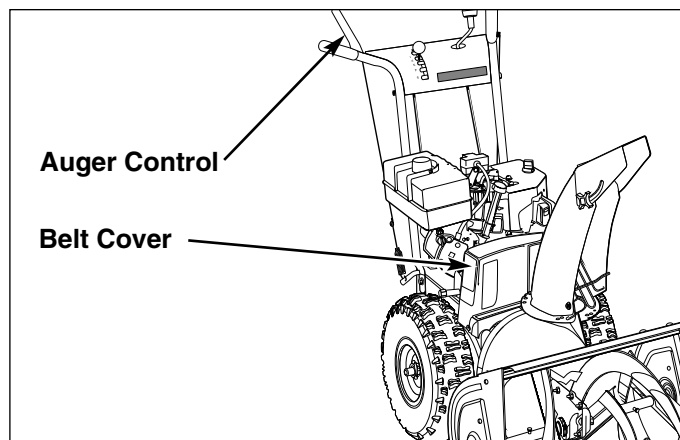

Figure 23. Auger Control and Belt Cover Location
5. Loosen the belt cover screws and remove the belt cover (Figure 23)
3. Remove belt cover (See Figure 23).